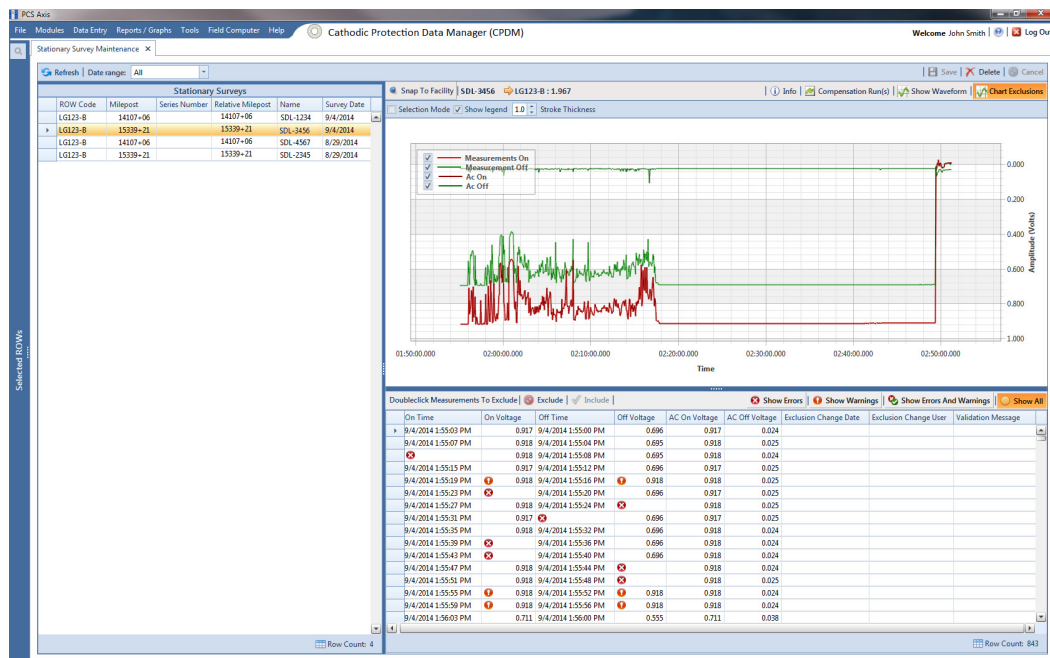

Figure 14-3. Stationary Survey Maintenance
- 2 Click **Data Entry > Stationary Survey Maintenance** (Figure 14-3).
- 3 If you want to filter the data view to view stationary surveys only for a particular time period, date range, or all stationary surveys, click the down arrow in the **Date range** field and select an option in the selection list. Then click **Refresh** (Figure 14-3).
Conditions resulting in an  error icon include: missing ON and/or OFF voltage measurement; missing survey date and time. A  warning icon is present when the same voltage measurement is used for both the ON and OFF reading. See the next figure for an example (Figure 14-3).
- 2 Click **Data Entry > Stationary Survey Maintenance** to open the *Stationary Survey Maintenance* window (Figure 14-3, page 656).
- 4 Select a stationary survey in the *Stationary Surveys* grid. A graph of survey measurements associated with the selected stationary survey display in the top-right panel of the window (Figure 14-3, page 656).